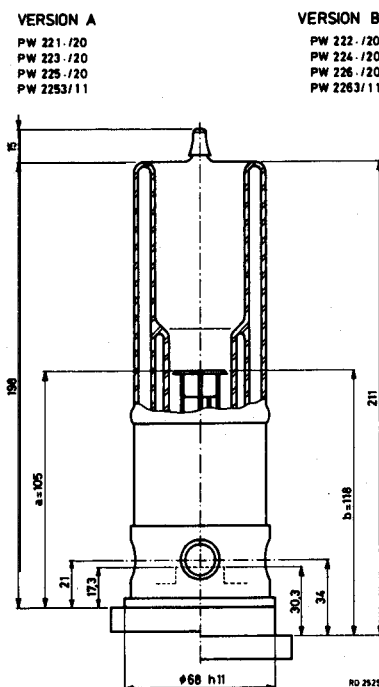

Fig. 3.3. X-ray tube dimensions.
**NOTE:** The tube shield is designed to accept X-ray tubes with dimensions as figure 3.3. version A. For other tubes a spacer ring, such as PW 1043, will be necessary when the dimension from the underside of the tube base to the centre of the tube base to the centre of the tube window exceeds 21 mm. Note that dimension "a" must not exceed 120 mm.